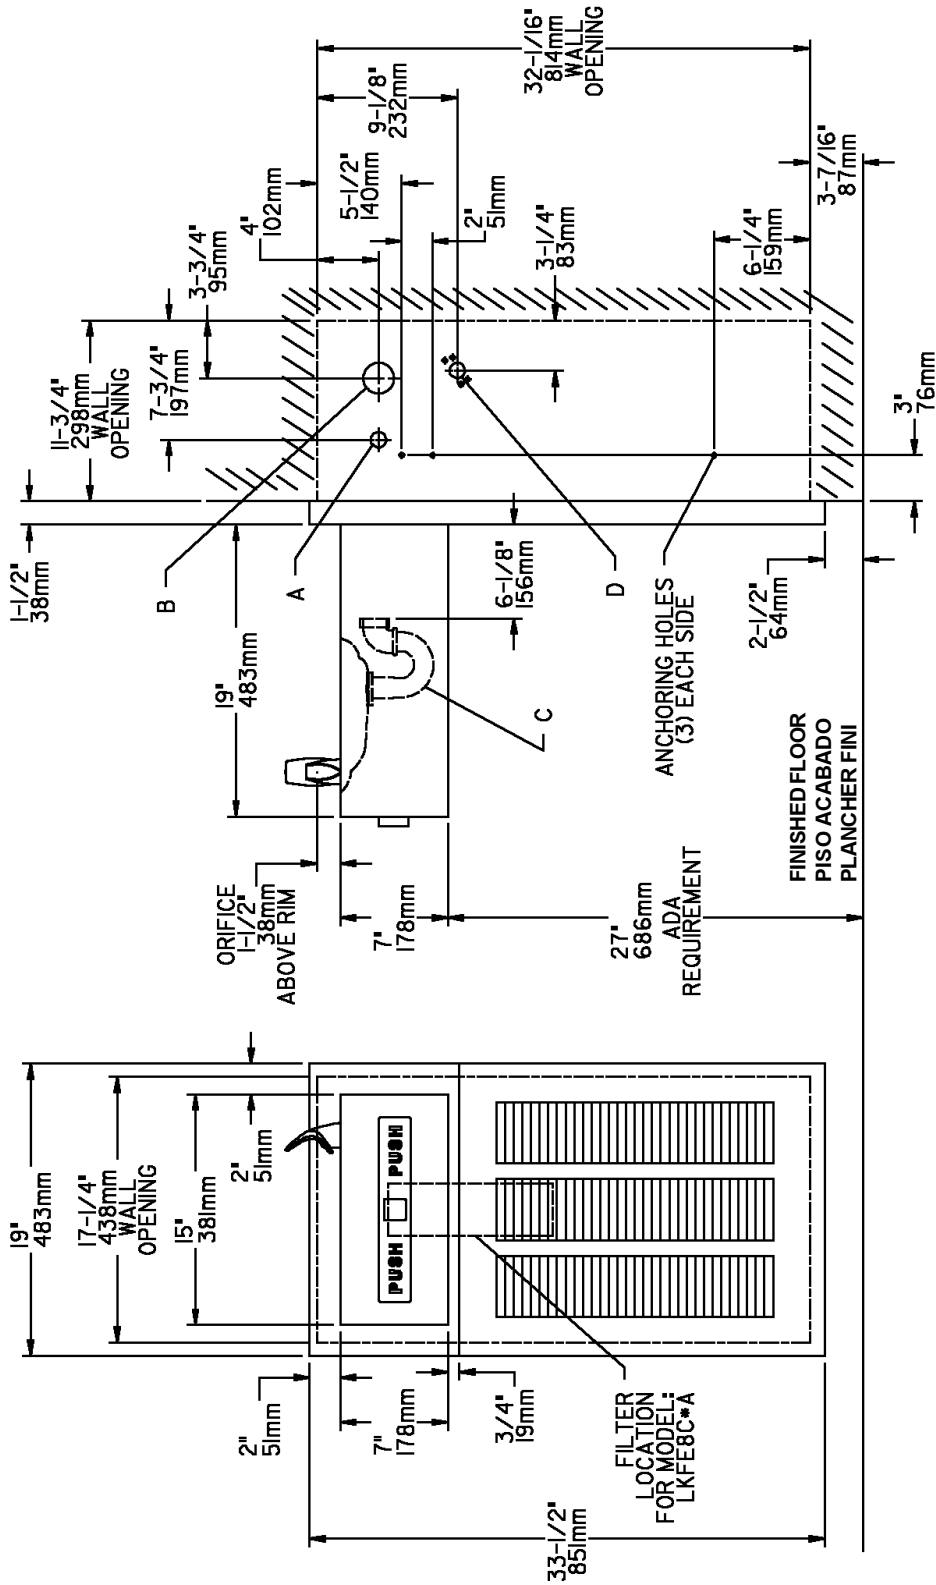

FIG. 1
1. **Fasten** mounting box into wall cutout using (6) screws or bolts (provided by others) through holes or knockouts provided on each side of the mounting box. (See Fig. 1)
2. **Mount** back panel using (2) screws supplied.
3. **Hang** fountain body and back panel using (2) screws and nuts provided.
4. **Secure** fountain body and back panel to wall box using (4) screws and nuts provided.